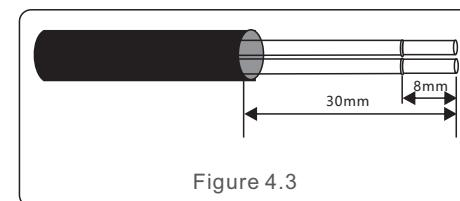

Figure 4.3
- Strip the insulation and shield to a suitable length. Use diagram below as a guide. (see Figure 4.3).